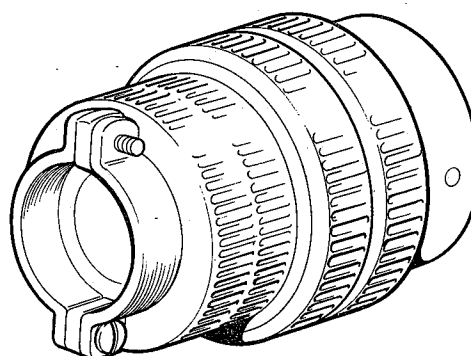
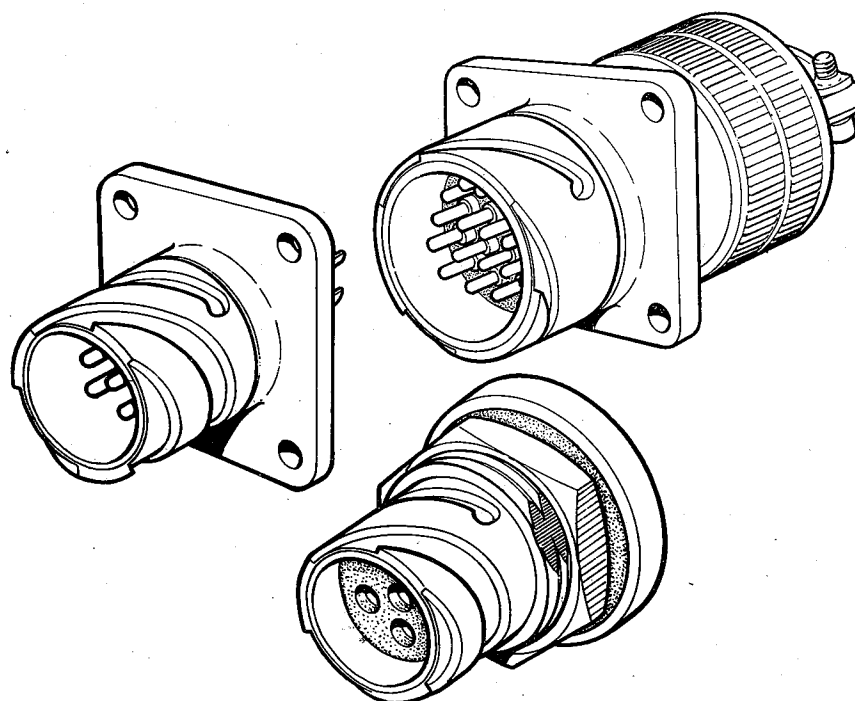

Fig. 1. Typical plug, showing strain relief clamp
Fig. 2. Typical receptacles
1. The range of Amphenol connectors in the 67 Series covers multi-contact miniature connectors of the quick-disconnect bayonet-lock type. The connectors are available as plugs, cable and panel receptacles and single hole mounting receptacles in five constructions, five shell sizes and 17 insert configurations with up to 48 contacts. Environmentally sealed types have moisture, insulation and environment resistance to U.S. Spec. MIL-C-5015 and are available with unitized back end grommet or with provision for potting. A typical free plug (06C) is shown in Fig. 1 and typical fixed receptacles (00C, 02E, 03E) are shown in Fig. 2.